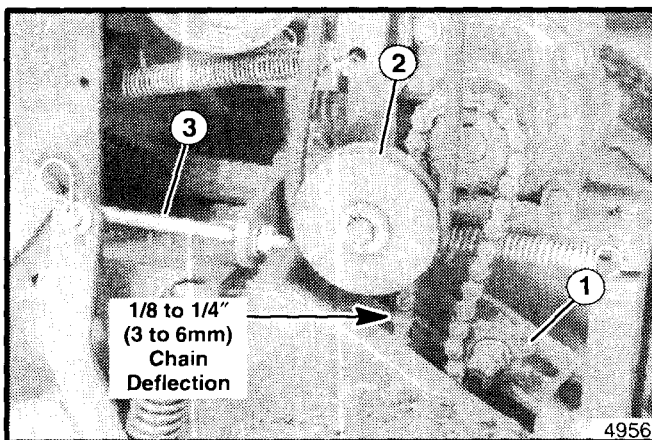

Figure 30. Hopper Pulley Adjustment
3. If the chain tension is correct, lower the reel and loosen the nut on the hopper pulley adjustment rod (see figure 30) until the sprocket fully engages the chain.